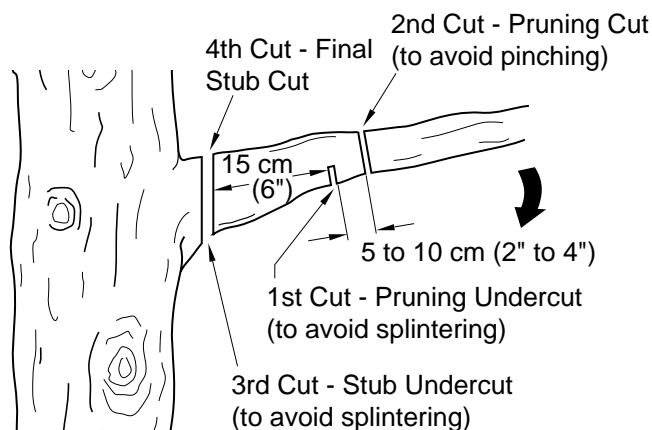

Figure 7 - Cutting A Limb
1. Make first cut 15 centimeters (six inches) from tree trunk on underside of limb. Use top of guide bar to make this cut. Cut 1/3 through diameter of limb (see Figure 7).